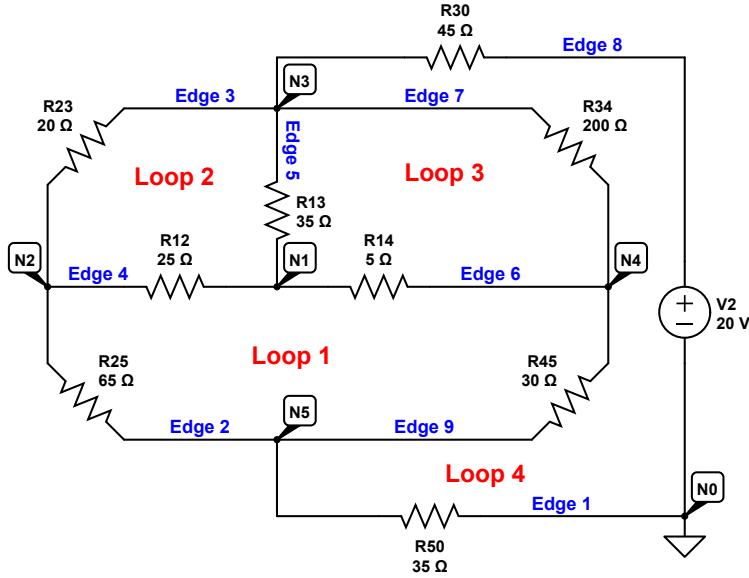

Figure 1: Circuit for Problem 1
1. (**Electric circuits**) Find the currents \mathbf{y} along each edge and the voltages \mathbf{x} at each node of the circuit shown in Figure 1. To do this, you will need to set up an "adjacency matrix" A , a diagonal "capacitance matrix" C , and any voltage (i.e. battery) sources \mathbf{b} .